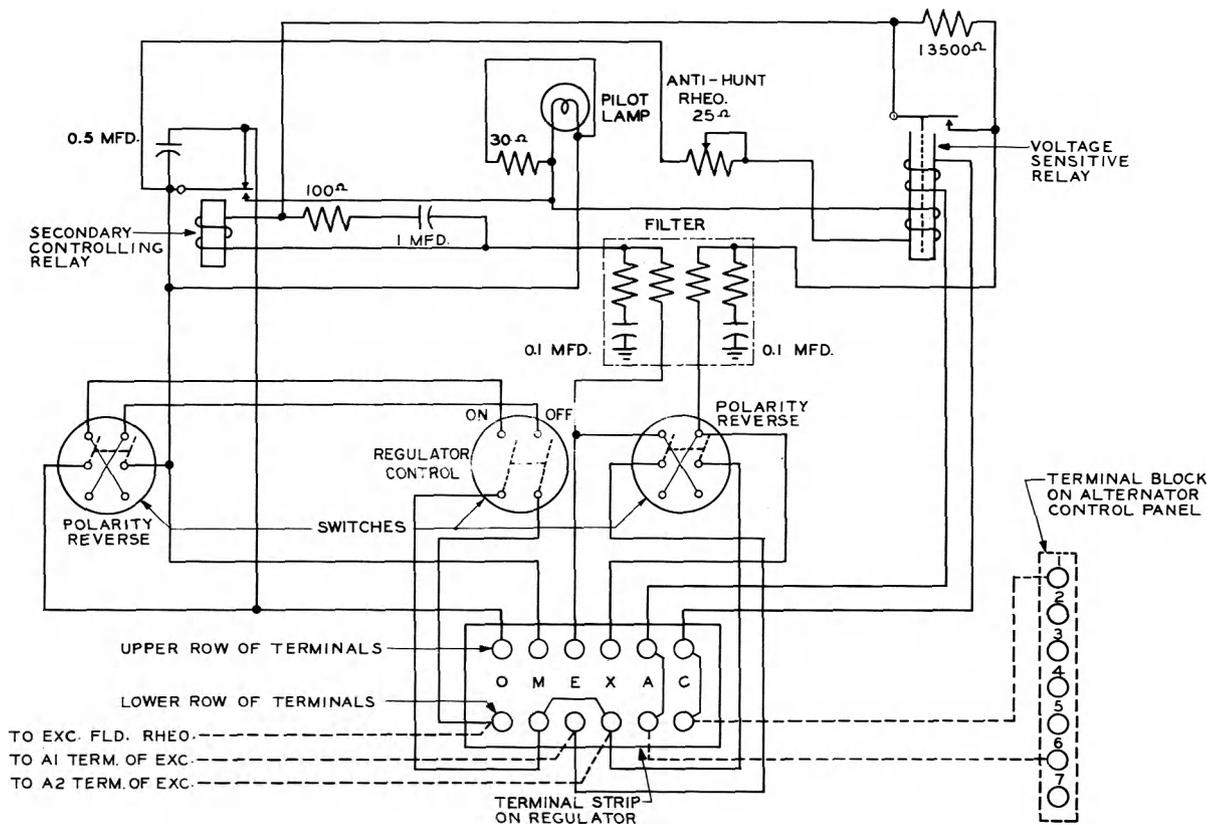

Fig. 3 – Burlington GB2 Regulator — Internal Connections
2.17 Placing Regulator in Service: Fig. 3 —